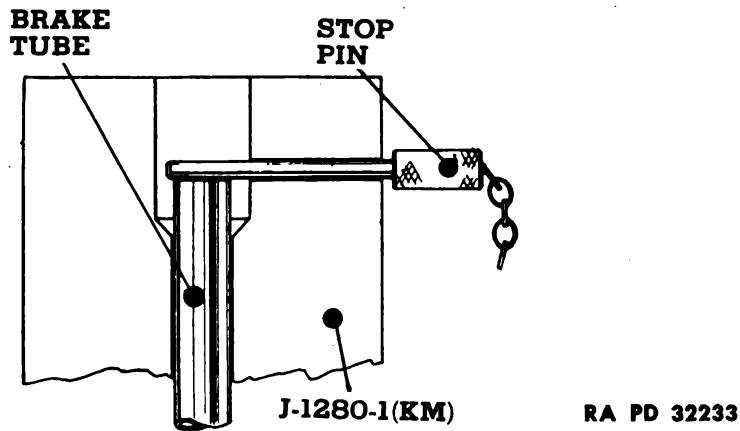

Figure 105—Installing Tube in Tool KM-J-1280 (41-T-3076-35)
b. Install Tube in Die. Place new inverted flared tube nuts on the tubing. Dip end of tubing to be flared in hydraulic brake fluid. *NOTE: This lubrication results in a better formation of the flare.* Loosen the clamping nuts on the flaring tool (41-T-3076-35), and insert finished end of the tubing in the channel of the die until it bears against the stop pin (fig. 105).